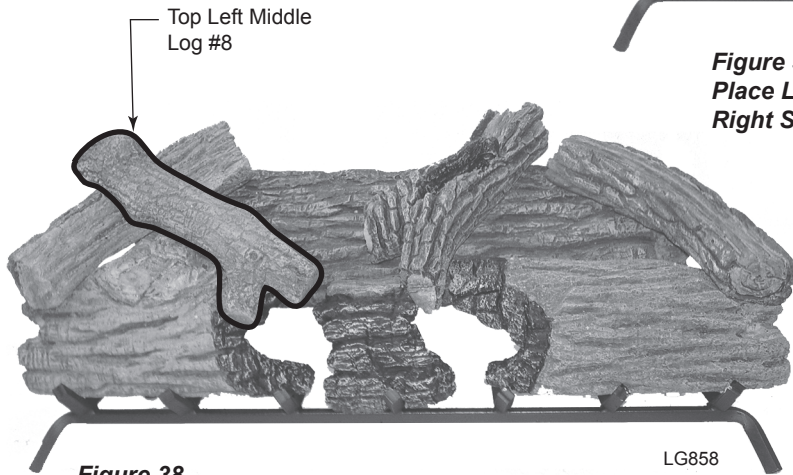

Figure 38 - Place Top Left Middle Log
- 9. Install top left middle log #8. *Figure 38*